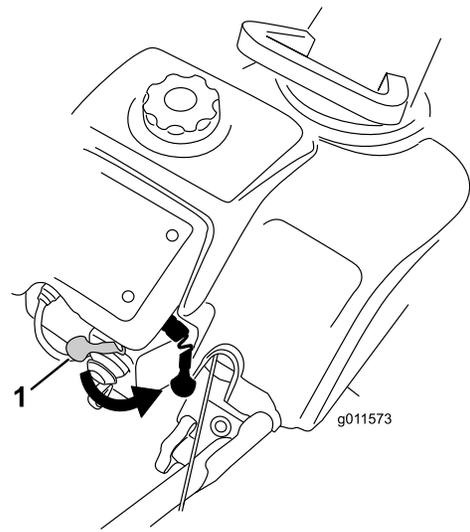
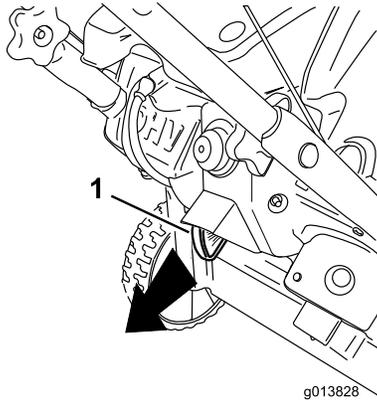

Figure 16
Figure 22
2. Move the choke lever fully to the right (Figure 16).
To stop the engine, pull the ignition key outward until it clicks into the OFF position (Figure 22) or move the choke lever fully to the right (Figure 16).